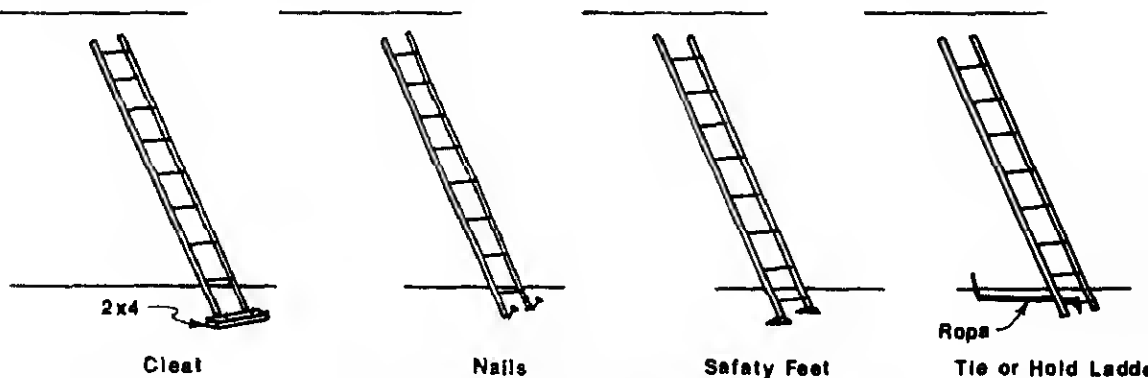

Figure 1: Ladder Bottoms
2. Use a ladder with safety feet suitable to the surface on which it stands. The bottom should rest on a solid, level surface. If no safety feet or non-slip provisions are available, either tie the bottom of the ladder to the floor or place the bottom of the ladder against a safety cleat. Figure 1 illustrates these techniques.